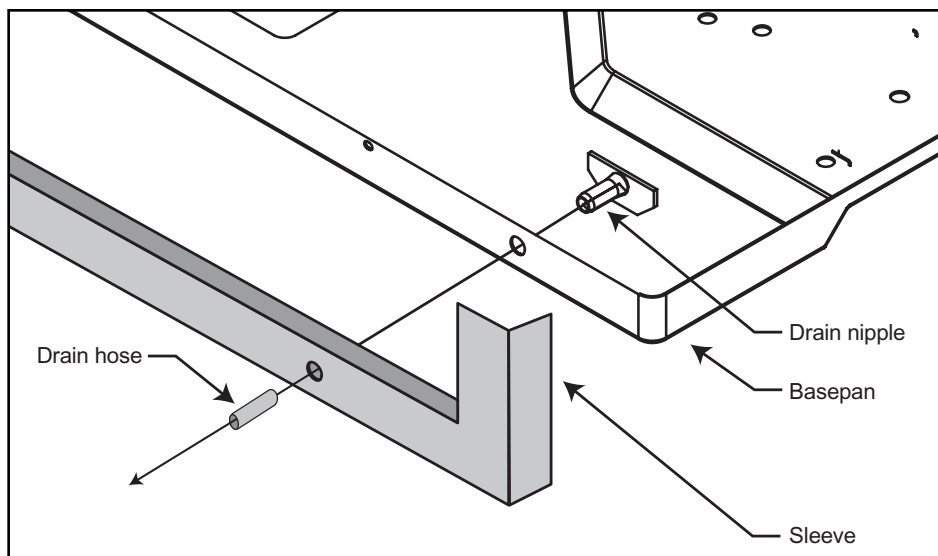

Figure 12
STEP 1 Find the drain plate on the rear of the basepan and remove it. (See Figure 12).